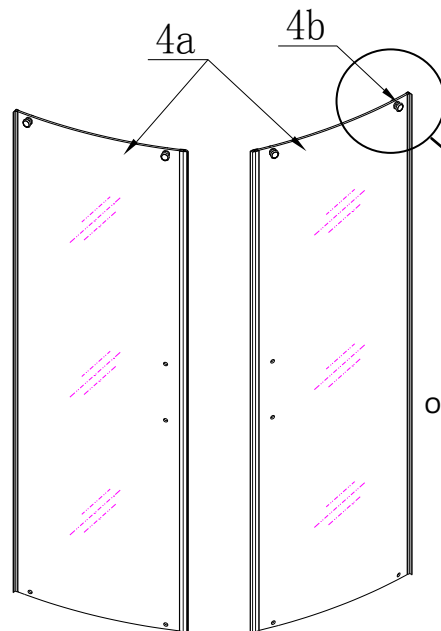

Figure 6
① Install the upper rollers (4b) to the sliding glass door (Don't install the lower rollers first), Then hang it onto the curved upper rail. After that, place the lower rollers in their track push the threaded portion of the bolt through the hole in the glass door and install as shown in figures 6 and 6.1